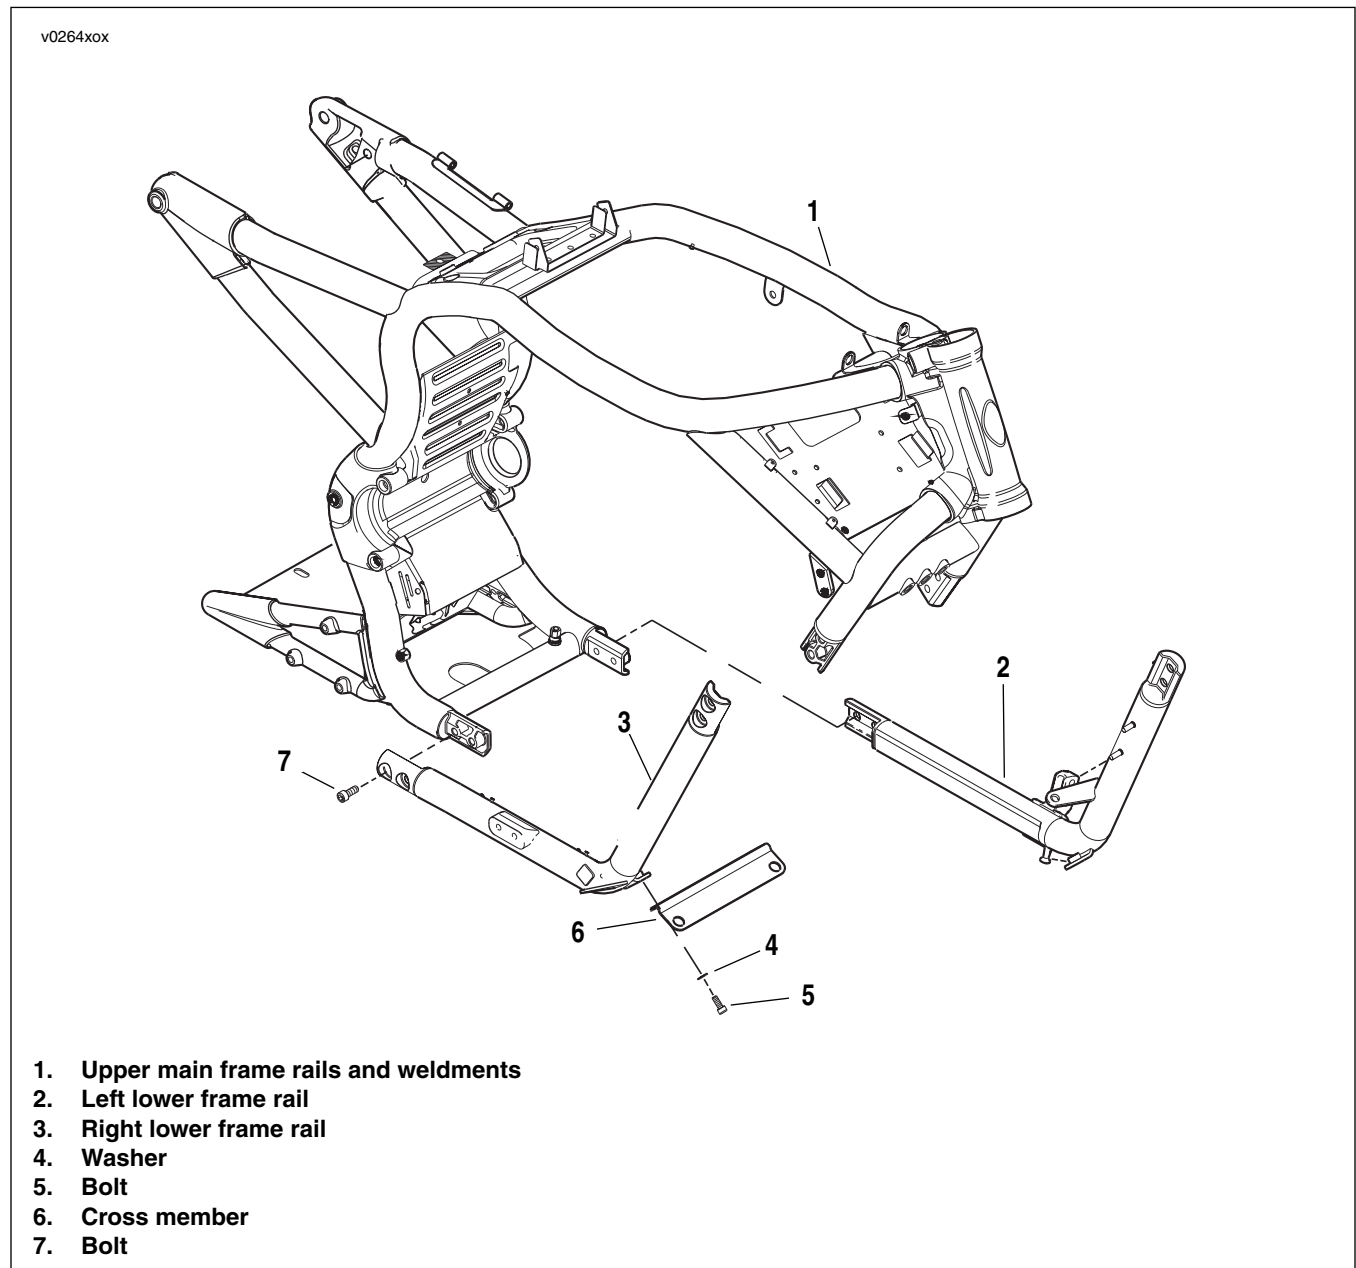

Figure 2-2. Steel Perimeter Frame and Bolt-on Lower Frame Rails (typical)
6. See Figure 2-2. Remove two cross member bolts (5) and washers (4). Pull bottom of radiator assembly forward with cross member or remove the radiator assembly as required. See 6.8 RADIATOR/OIL COOLER.
1. See Figure 2-2. Install left and right lower frame rails (2, 3) and finger tighten mounting bolts (7).
5. Reinstall radiator/oil cooler assembly as required or pull radiator/oil cooler assembly into position and install and finger tighten cross member mounting bolts (5) and washers (4). Tighten cross member bolts (5) to 20-26 Nm (15-19 ft-lbs). See 6.8 RADIATOR/OIL COOLER.
6. Tighten lower frame rail bolts (7) to 61-75 Nm (45-55 ft-lbs).